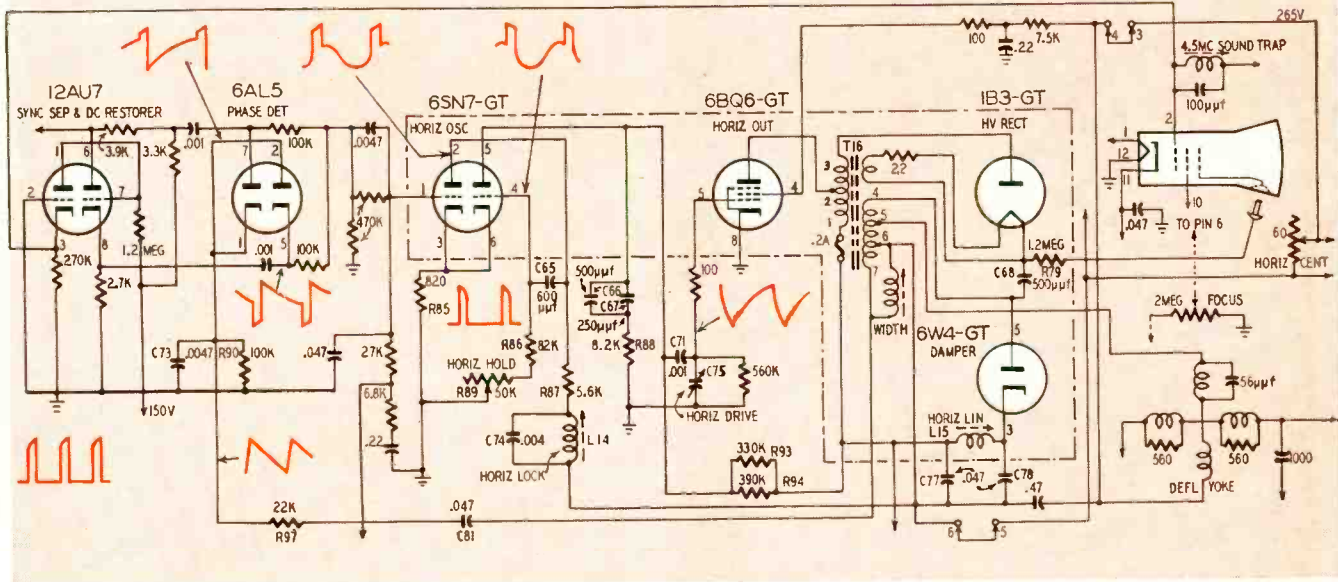

Fig. 1—Schematic diagram of the horizontal section of Sentinel model 438 XD chassis. Waveforms are shown throughout.
**When there has been poor linearity from the beginning, that could not be corrected by the vertical linearity control, a small change in value of peaking resistor (R6, Figs. 1, 2) may correct it.** Increasing the value of this resistor (25 to 50%), causes stretching at the top of the picture; decreasing the value causes compression.
**Other possible defects include:** change of resistor values in the charge circuit, or change in the value of charging capacitor; defective vertical output transformer; open capacitor in the decoupling circuit of the output stage (C8, Fig. 1); change of resistor value in either decoupling circuit (R9 or R13, Fig. 1); defective yoke (ferrite core cracked.)
**If the fault has been present from the beginning, check the manufacturer's field modifications for the particular model.** Some common methods for increasing height include: Boosting B plus with new (or a more efficient type of) low-voltage rectifier tube; using a 6Y6-G instead of a 6K6-GT as the vertical output tube in converted 630 type sets where the filament supply permits this (the 6Y6-G filament takes 1.25 ampere, about three times the current of the 6K6-GT); lowering the value of the fixed resistor in the charge path (R7, Figs. 1, 2) to two-thirds or one-half the original value; changing the two-winding vertical output transformer connections to make it function as an autotransformer (Fig. 5).
**8. Keystoning.** (Picture becomes narrow at the right or the left side.) Keystoning is caused by a short or partial short in one section of the vertical deflection coil (yoke) or a defective damper resistor (R14, R15, Fig. 1).
Starting with the horizontal phase detector circuit, let us examine the high points of the horizontal section (Fig. 1). Two voltages are fed into the 6AL5 balanced phase detector. They are the incoming signals' horizontal sync pulses and the horizontal reference feedback voltage. These two voltages are compared in phase, and the d.c. voltage developed is applied to the control grid, pin 1 of the 6SN7-GT horizontal oscillator. The d.c. voltage varies the plate resistance of the tube, keeping the oscillator from going out of synchronization.